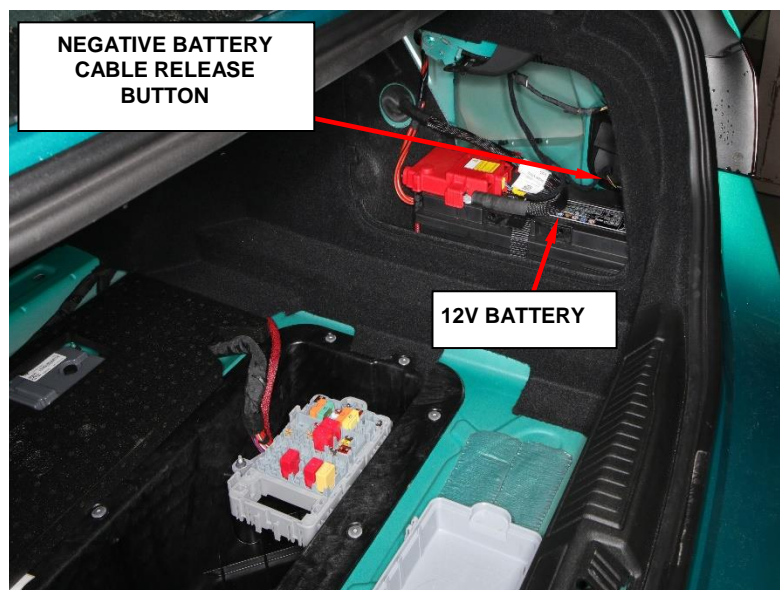

Figure 15 – Battery Negative Cable
3. Press the release button and disconnect the negative battery cable from the post. If equipped with an Intelligent Battery Sensor (IBS), disconnect the IBS connector (Figure 15).